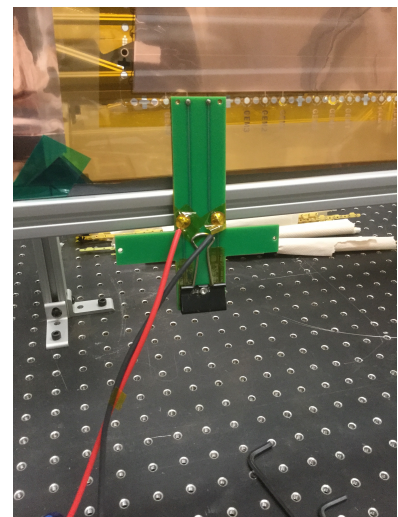

Figure 2: The HV clip attached to a foil.
5. Using the custom fabricated HV clip (fig. 2), attach the Megger to the foil².